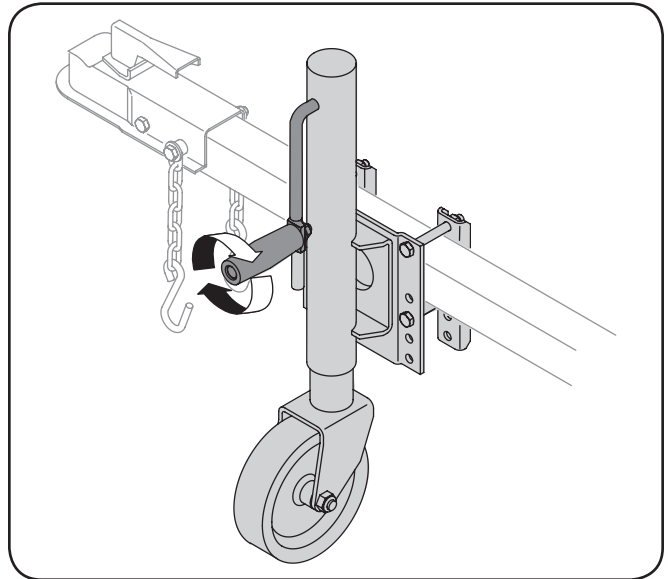

Figure 5-4
2. Raise the adjustable jack stand by turning the crank clockwise. See Fig. 5-4.